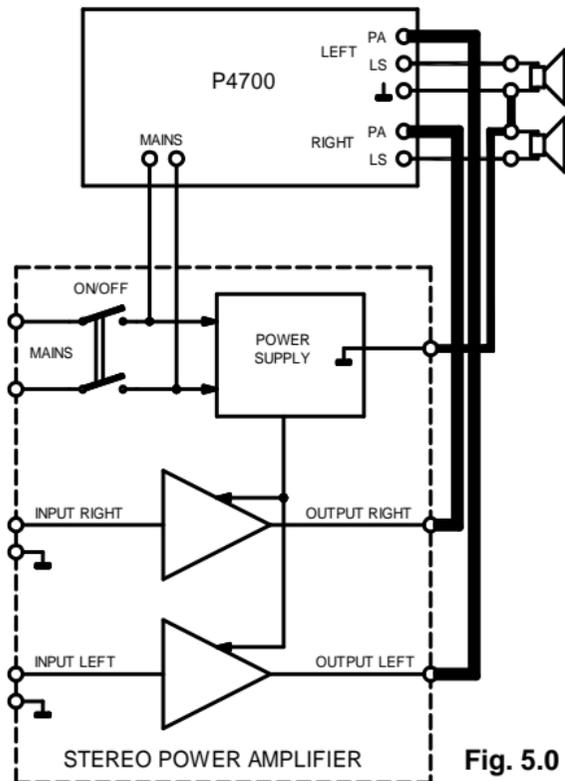

Fig. 5.0
**PA:** connect this point to the speaker-output of the amplifier, respectively for the left and the right signal (fig 5.0). In case a bridge-amplifier (fig 6.0) is being used, there ought to be two "hot" connections here.